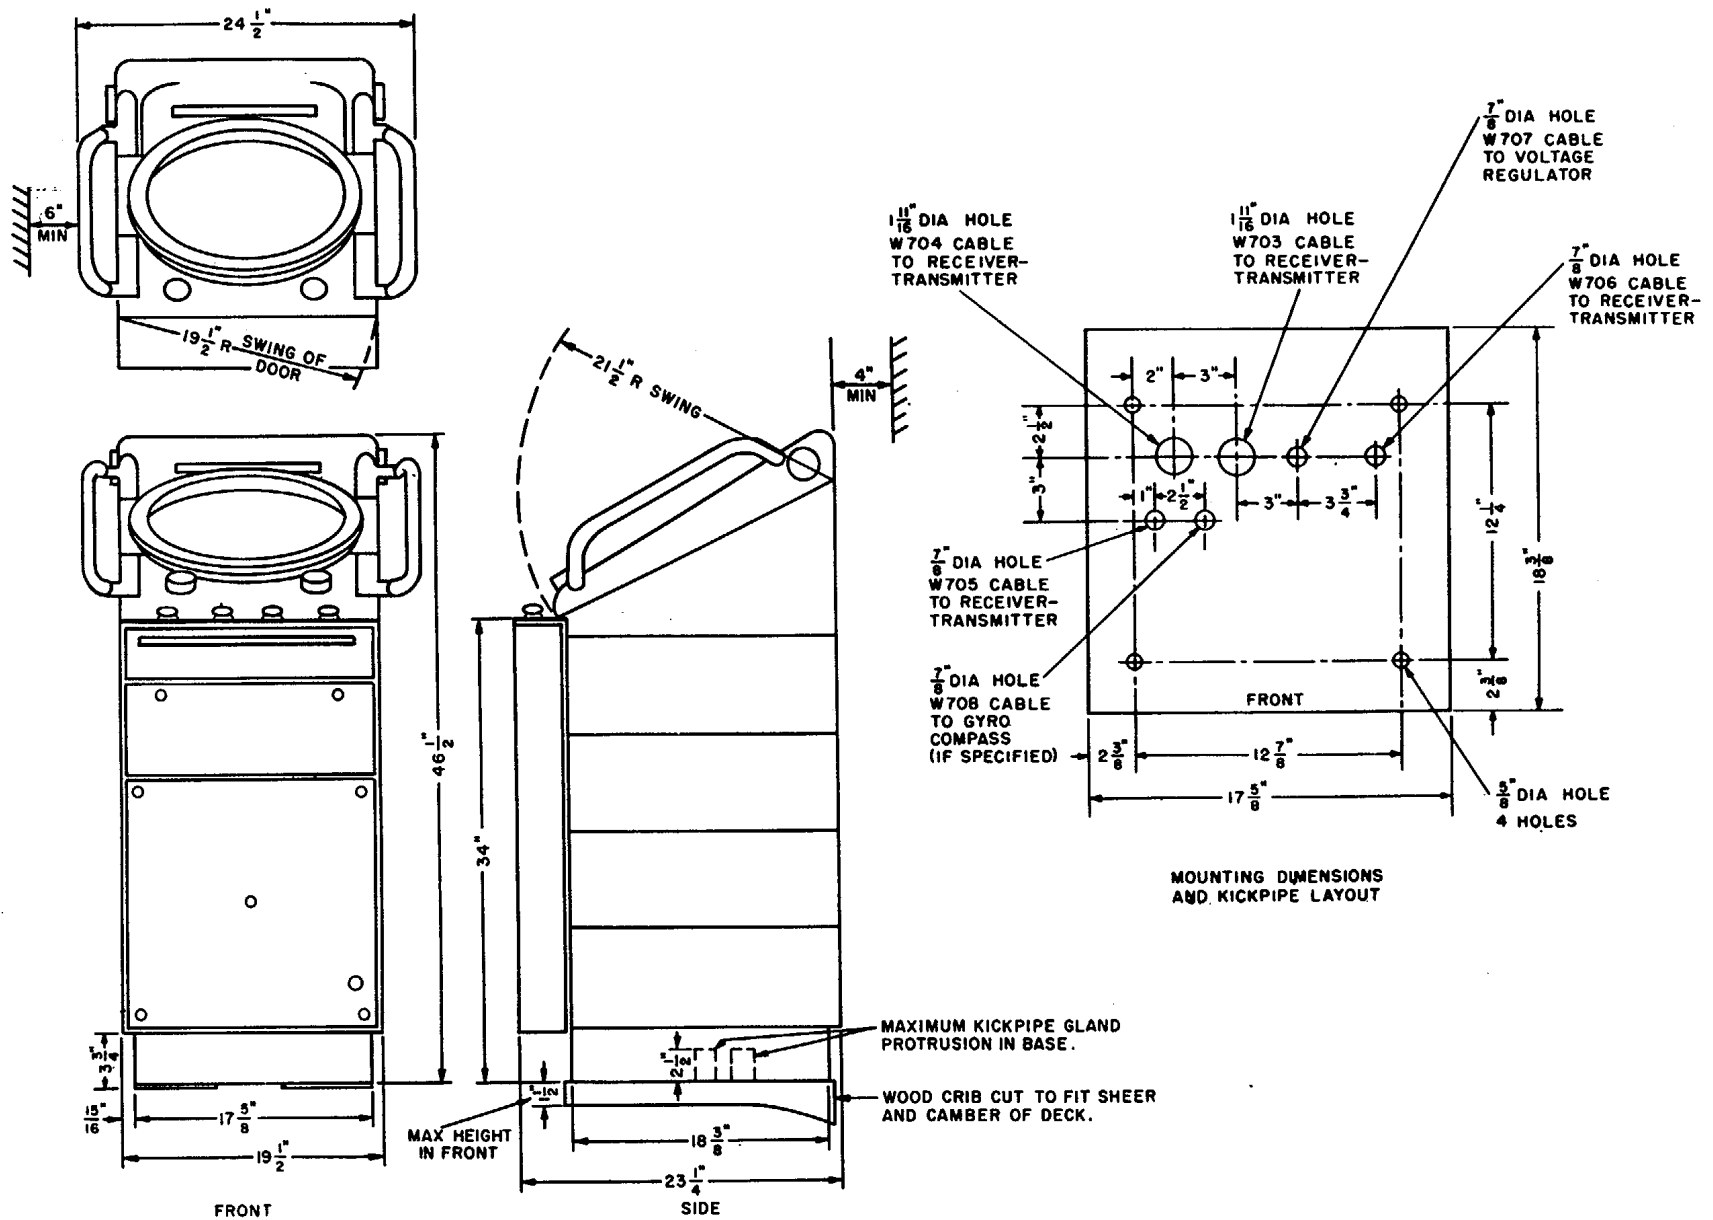

Figure 32. Indicator, dimensional drawing.
b. As with the receiver-transmitter, the base of the indicator should rest on a strong wooden crib (fig. 32). This crib is usually supplied by the installation agency or the shipyard. The crib is cut to fit the sheer and camber of the deck.
d. Drill in the deck two 1 11/16-inch and three 7/8-inch kickpipe holes as illustrated in figure 32.